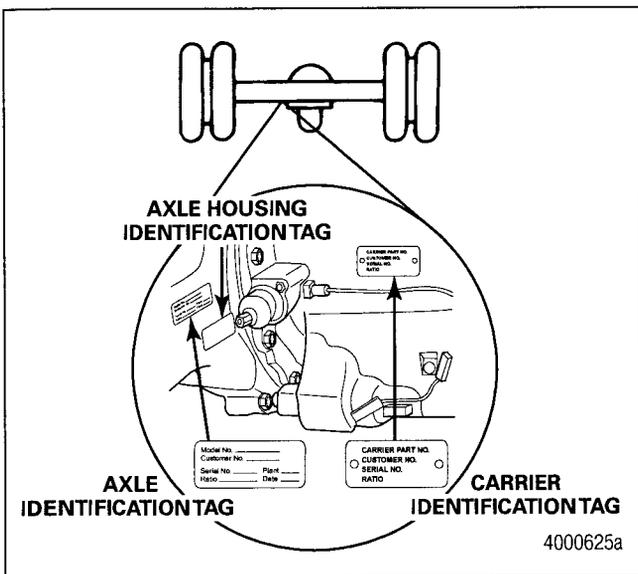

Figure 1
- Axle model and serial number. Figure 1.